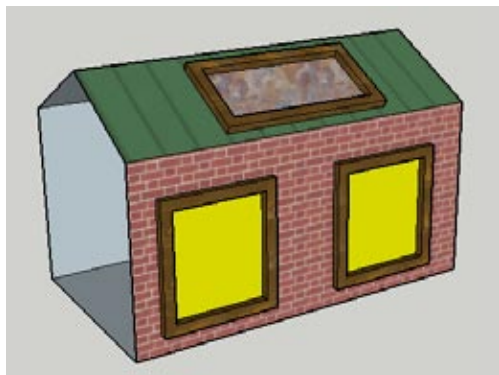

Figure 8-37
1. Download my Translucent Materials model from the 3D warehouse (Figure 8-37). The two windows are painted solid yellow, and the skylight is painted with a stone material.